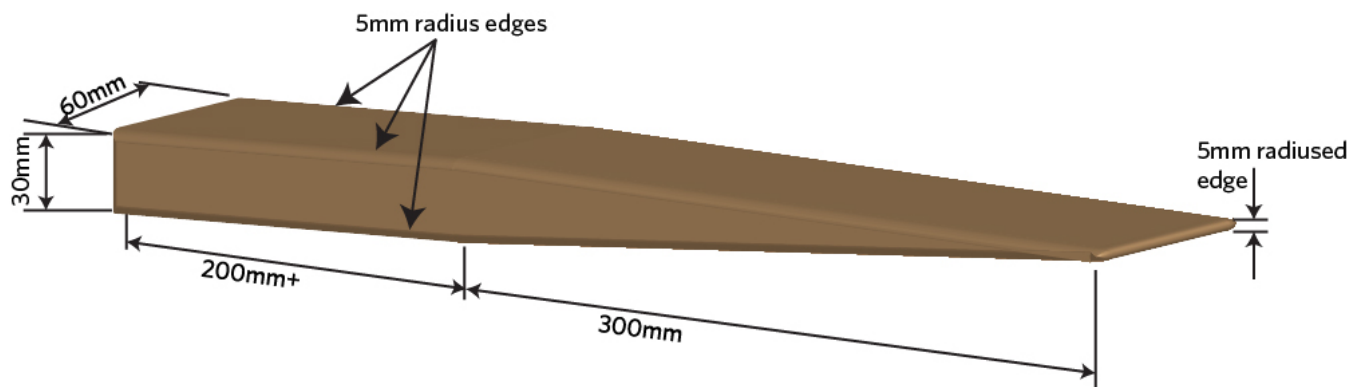

Figure 5-1-1. Test bar dimensions
- Test bar (Figure 5-1-1)
Section of height 60mm, width 30mm with corners radiused to 5mm and tapered at one end over a length of 300mm from a thickness of 30mm to a thickness of 5mm (Figure 5-1-1). Surface to be smooth but shall not be treated with polish or lubricated.